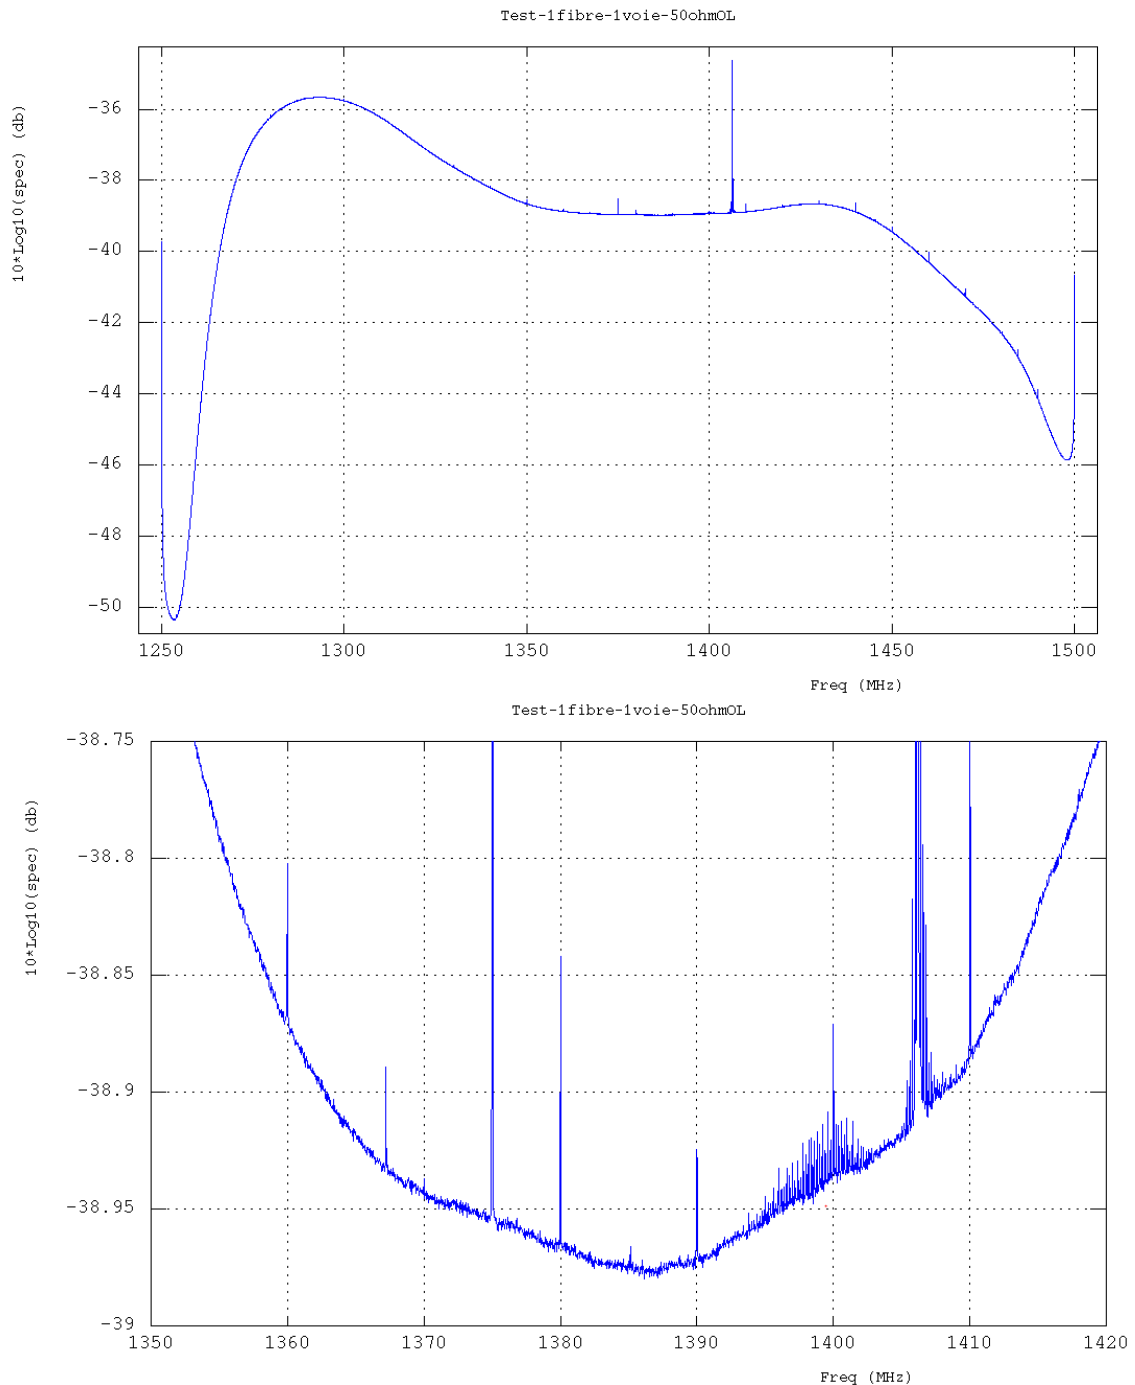

Figure 3 Power in dB of the ADC + OL-mixer (mind the freq. band)
On Figure 3 the output of the ADC with OL-mixer (1250MHz) is presented on the full frequency band (top panel) and a zoom (bottom panel).
- Most of the lines present on Figure 3 have disappeared but some have been enhanced.